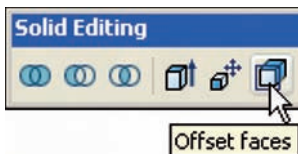

Fig. 19.8 The **Offset faces** tool icon
2. Click on the **Offset faces** tool icon in the **Solids Editing** toolbar (Fig. 19.8). The command line shows: